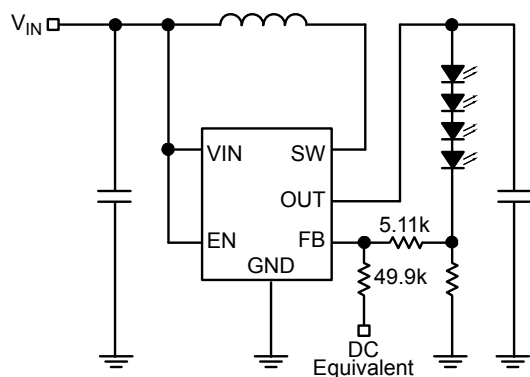

Figure 2. Continuous Dimming
2. Continuous dimming control is implemented by applying a DC control voltage to the FB pin of the MIC2292/93C through a series resistor as shown in Figure 2. The LED current is decreased proportionally with the amplitude of the control voltage. The LED intensity (current) can be dynamically varied applying a DC voltage to the FB pin. The DC voltage can come from a DAC signal or a filtered PWM signal. The advantage of this approach is that a high frequency PWM signal (>10kHz) can be used to control LED intensity.